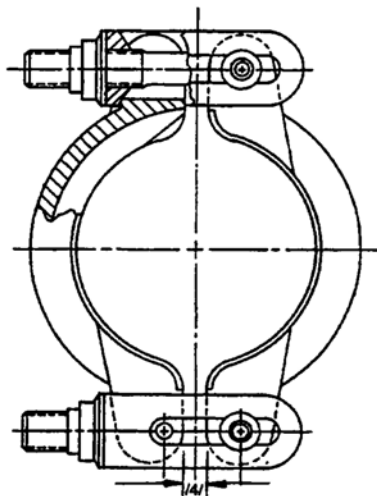
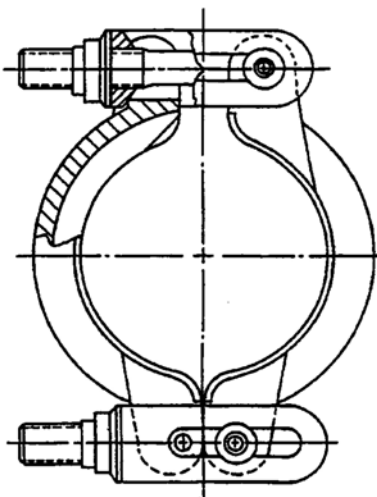

FIGURE 2 - CORRECT INSTALLATION DOUBLE LATCH COUPLING
FIGURE 3 - INCORRECT INSTALLATION DOUBLE LATCH COUPLING /12c/
- (c) CLOSURE OF LATCH GAP LESS THAN NOTED IN FIGURE 2 OR BUTTING OF LUGS AS NOTED IN FIGURE 3, BEFORE REQUIRED TORQUE IS REACHED